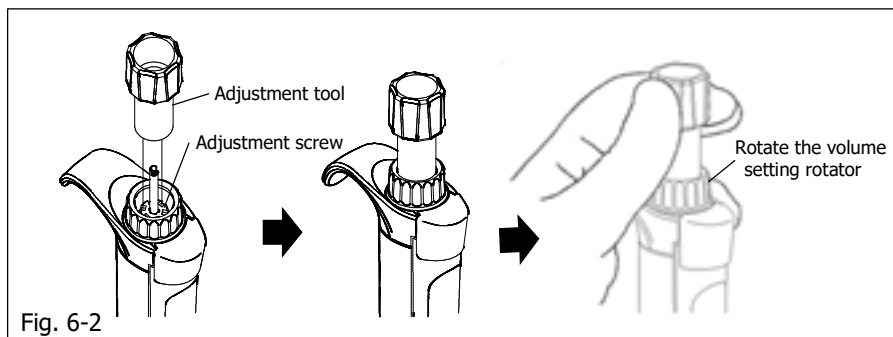

Fig. 6-2
- 4) Set the adjustment tool projection so that it fits into the adjustment screw recess. (Fig. 6-2)
- 5) Hold the pipette in one hand and hold down the adjustment tool firmly so that it does not rotate. (Fig. 6-2)